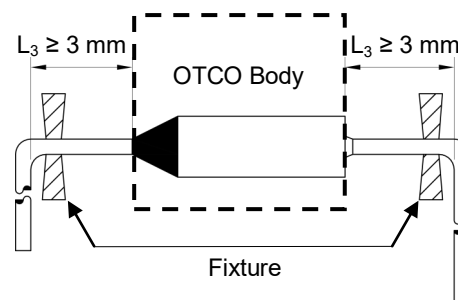

FIGURE RT-1
c. For T_h test, UL / cUL standard requests the thermocouples are placed on the surface of OTCO body (refer to Fig. RT-1) , while other standards request the thermocouples are placed on the sample isothermal point.
2. The lead wires should be bent at a distance 3 mm or above from the body of OTCO (see L_3 in Fig. RT-1).